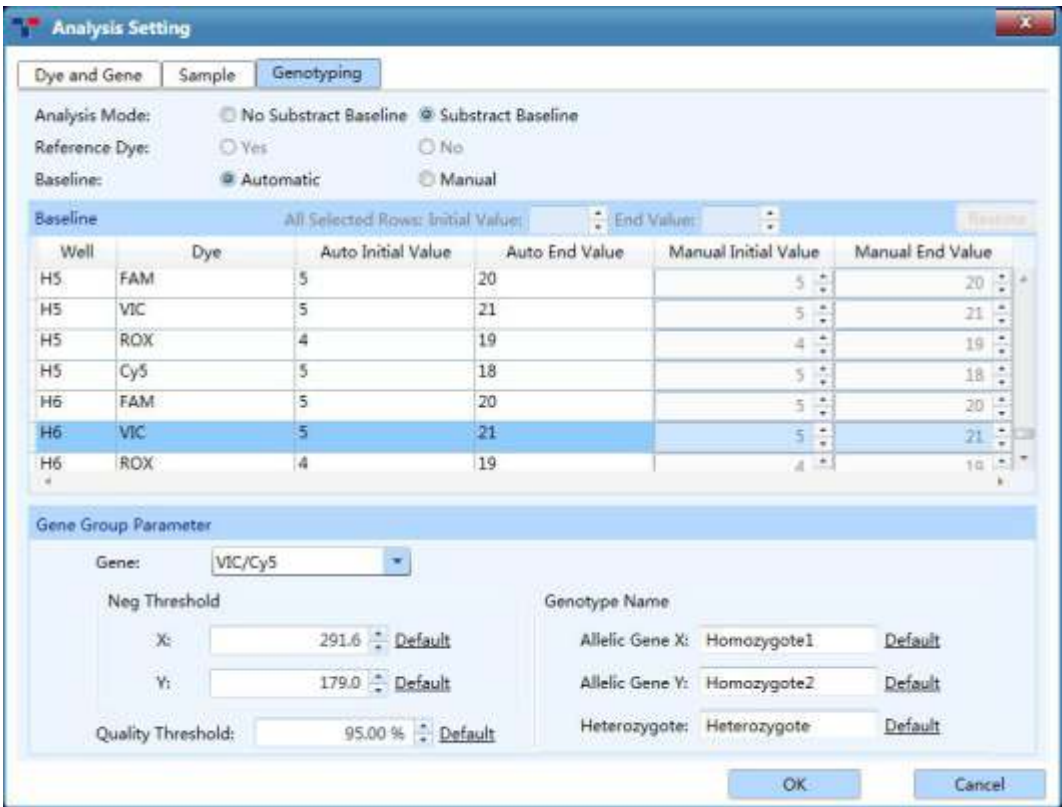

Figure D-17. Genotyping Analysis Setting interface - Genotyping tab
- ▶ *Genotyping* tab: users can set *Analysis Mode*, *Reference Dye*, *Baseline* and *Gene Group Parameter* in *Genotyping* tab, as shown in figure D-17.